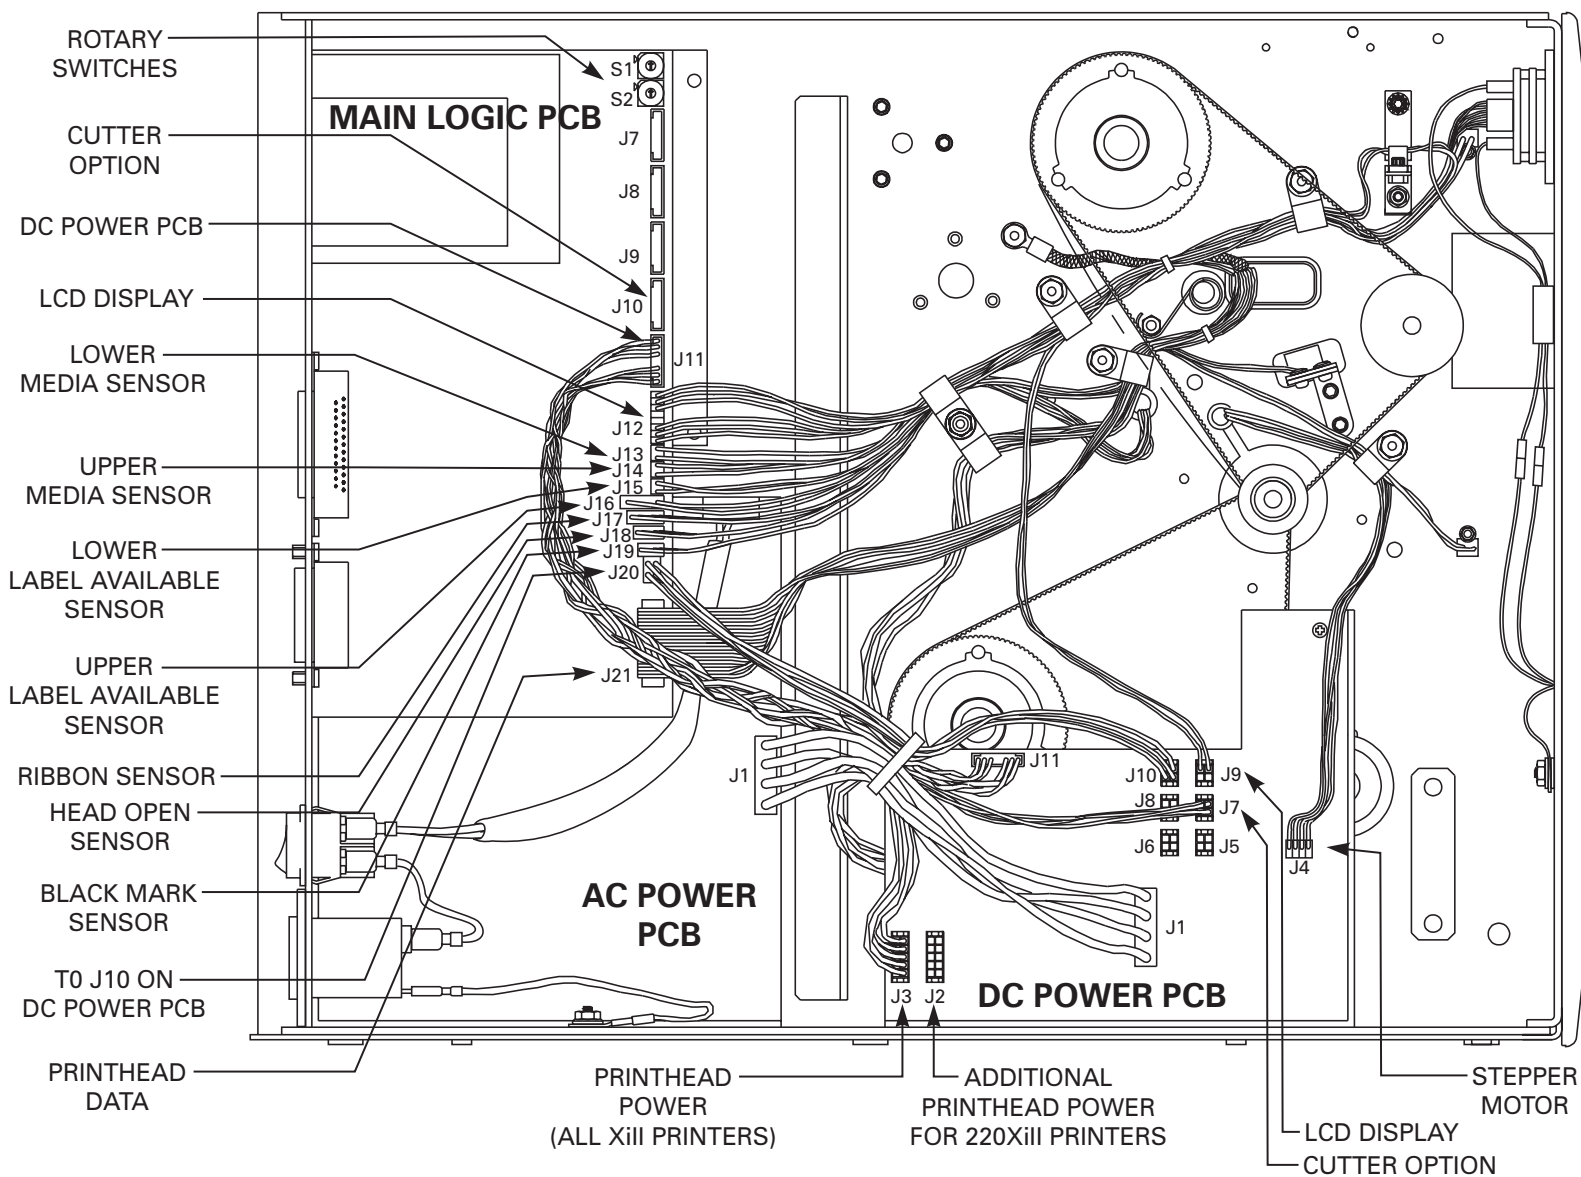

Figure 5.13 Circuit Board Location and Interconnection
5. Refer to Figure 5.13. Unplug all Ribbon Cable Connectors and Small Wire Connectors from the Main Logic Board (note their positions).
1. Refer to Figure 5.13 and Table 5.1 and place Rotary Switch S1 in the proper position for the printer under repair. **(Rotary Switch S2 must remain in the zero (0) position.)**
4. Refer to Figure 5.13. Carefully connect all the Ribbon Cables and Small Wire Cables to the proper connectors on the Main Logic Board.
3. Refer to Figure 5.13. Unplug all Ribbon Cable Connectors and Small Wire Connectors from the DC Power Supply Board (note their positions).
3. Refer to Figure 5.13. Carefully connect all the Ribbon Cables and Small Wire Cables to the proper connectors on the DC Power Supply Board.
3. Refer to Figure 5.13. Unplug all Ribbon Cable Connectors and Small Wire Connectors from the Main Logic Board and AC Power Supply Board (note their positions).
7. Refer to Figure 5.13. Install all Ribbon Cable Connectors and Small Wire Connectors onto the Main Logic Board and AC Power Supply Board.